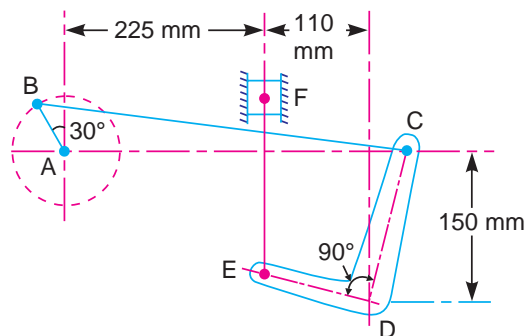

Fig. 7.33
- The dimensions of various links in a mechanism, as shown in Fig. 7.33, are as follows :